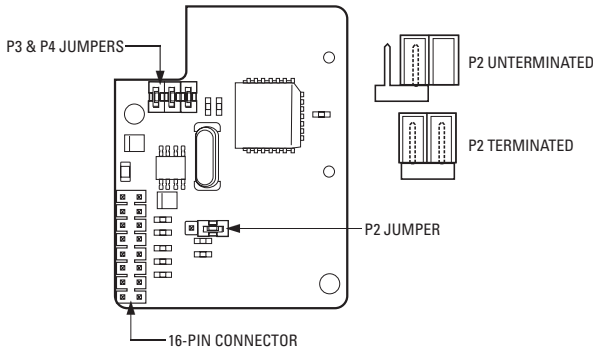

Figure 13. TXB-V Termination and Baud Rate (Bottom View)
5. Set the P2 jumper on the TXB-V to the proper termination setting (refer to Figure 13). Note the following: